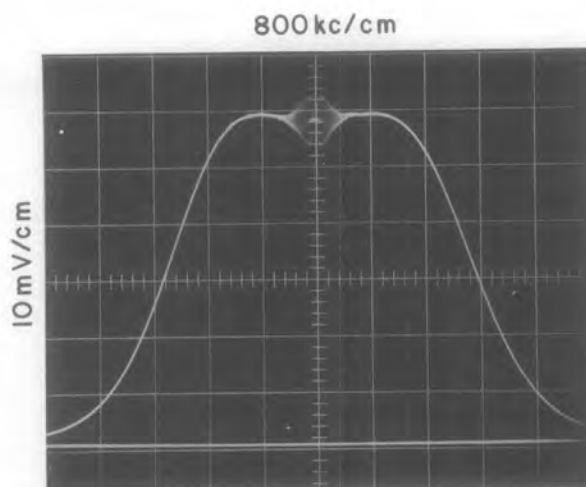

Figure 4-33. Typical Response, Converter/235-500 mc and 490-1000 mc Tuner Response
- (5) Reset the 235-500 MC dial and the FINE TUNING control for an indication of exactly 385.0 mc ( $325 + 60$ ) on the frequency counter.
- (6) Connect the frequency counter to the Uncal Out jack of the signal generator.
- (7) Set the signal generator output frequency to 325.00 mc cw. Adjust the output level for a convenient marker size throughout the following procedure.
- (8) Readjust the controls of the sweep generator to display the marker and the response on the oscilloscope.
- (9) Adjust A3L14 and A6L1 for a maximum amplitude response centered on the 325 mc marker. Refer to Figure 4-33 for a typical response.
- (10) Reset the sweep generator controls as follows: